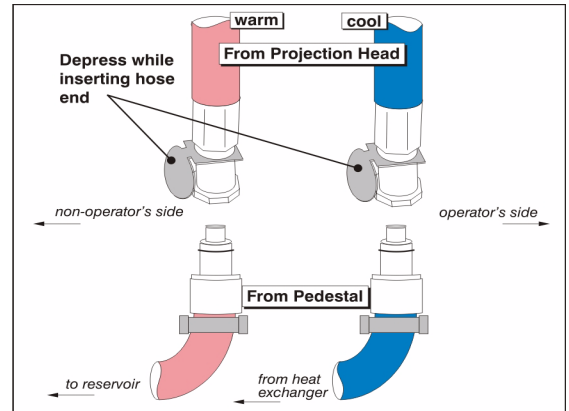

Figure 3-15 Connecting the Hoses
- a. To create this loop, connect the **OUT/warm** and **IN/cool** hoses as described below. **NOTE:** *Hose connections may not be labeled.* Be sure to depress each hose connector tab before inserting the hose end, then release to seal (**Figure 3-15**). This prevents damage caused by forcing the gasket end into a closed connector. Listen for a click.